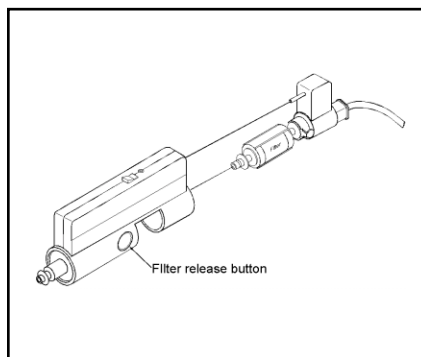

Fig. 3
6.2 Connect the hose and filter to the console. First, push the Filter Release Button (Figure 3) in all the way. Then, push the fitting containing the filter all the way into the opening in the console until it latches with a click. The fitting fits only in the correct orientation. The small plastic fitting on the end of the filter must align with the metal guide coupling in the console. You may have to wiggle the filter slightly while inserting it. See Figure 3.